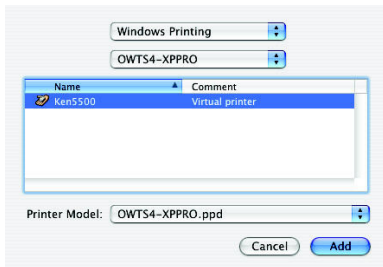

Figure 8—Add
11. Click **Add** (see Figure 8).